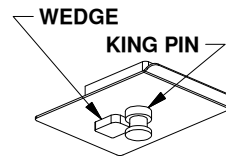
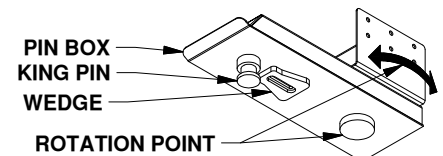

Figure F1: Capture plate.
Figure F2: pin box with rotation point.
**WARNING:** Towing a trailer without a functioning pivot point between the hitch & trailer will cause significant damage to the hitch which may lead to serious injury or death. Some pin boxes such as a Pull-rite® Superglide Capture Plate remove the pivot point between a trailer and coupler and should not be used, See Figure F1. Pin boxes with a wedge that relocates the pivot point such as a Reese® Sidewinder or Reese® Revolution may be used, see Figure F2.